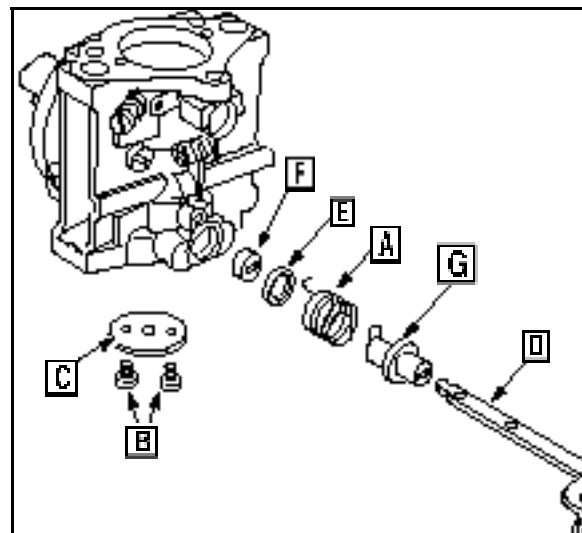

Fig. 101
9. Unhook the choke shaft spring ([A] Fig. 101).
10. Remove the choke plate screws (B). Remove the choke plate (C). Remove the shaft (D), spring (A), washer (E), and retainers (F) and (G Fig. 101).
13. Remove the throttle shaft screws ([B] Fig. 101) Remove the throttle plate.